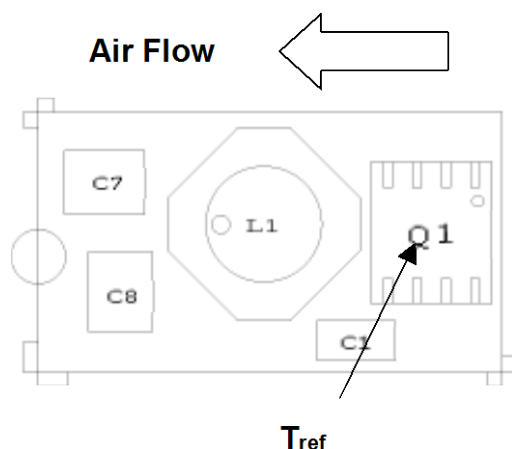
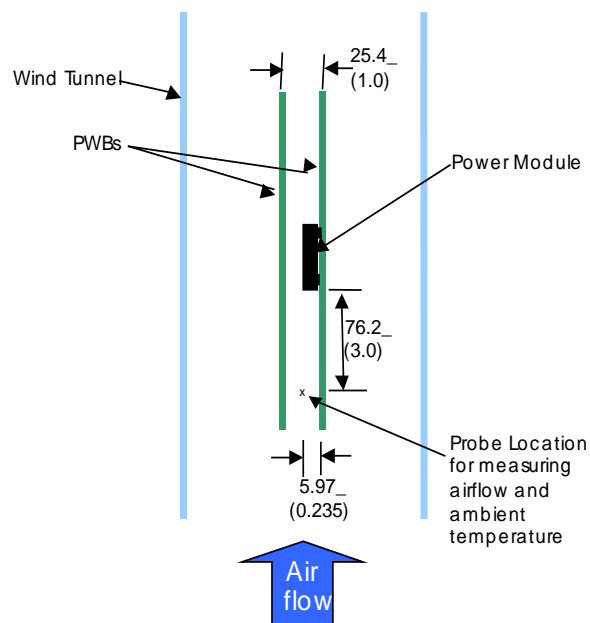

Figure 31. T_{ref} Temperature measurement location.
Figure 32. Thermal Test Set-up.
To provide over temperature protection in a fault condition, the unit relies upon the thermal protection feature of the controller IC. The unit will shutdown if the thermal reference point T_{ref2} , (see Figure 31) exceeds $140^{\circ}C$ (typical), but the thermal shutdown is not intended as a guarantee that the unit will survive temperatures beyond its rating. The module will automatically restarts after it cools down.
Considerations include ambient temperature, airflow, module power dissipation, and the need for increased reliability. A reduction in the operating temperature of the module will result in an increase in reliability. The thermal data presented here is based on physical measurements taken in a wind tunnel. The test set-up is shown in Figure 32. Note that the airflow is parallel to the long axis of the module as shown in figure 31. The derating data applies to airflow in either direction of the module's long axis.
The thermal reference point, T_{ref} used in the specifications is shown in Figure 32. For reliable operation this temperature should not exceed 115°C.